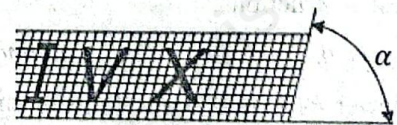

Figure 5
8. In the inclined lettering represented in figure 5 below, what is the value of the angle α .